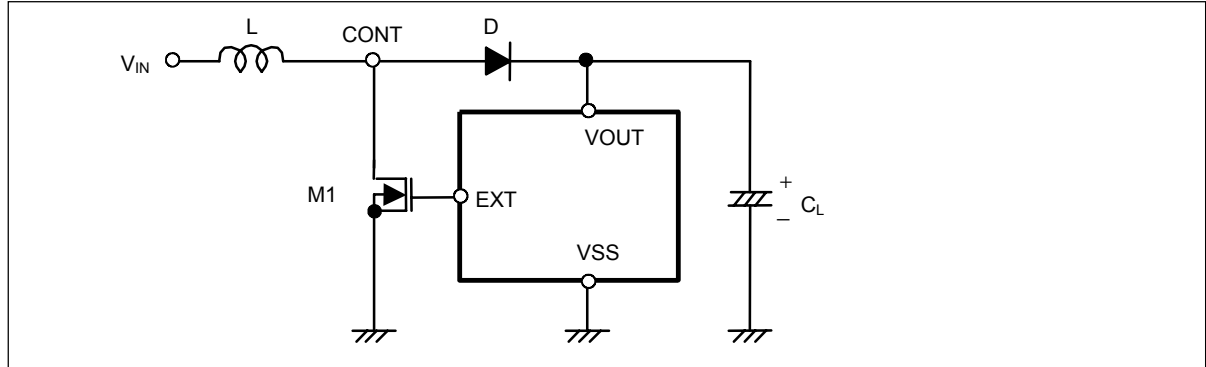

Figure 14 Step-up Switching Regulator Circuit for Basic Equations
The following are basic equations [(1) through (7)] of the step-up switching regulator (refer to Figure 14).